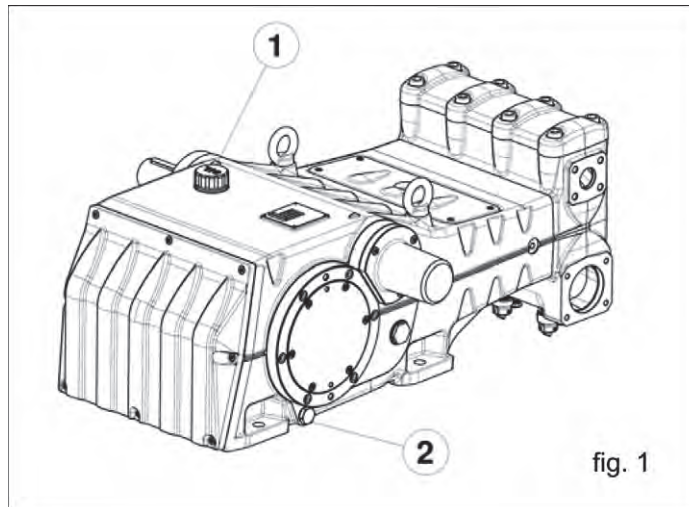

fig. 1
Repairs on the mechanical parts must be carried out after removing the oil from the crankcase. To remove the oil, remove the oil fill plug, (pos. 1, fig. 1) and then the drain plug, (pos. 2, fig.1) present on both side of the crankcase.